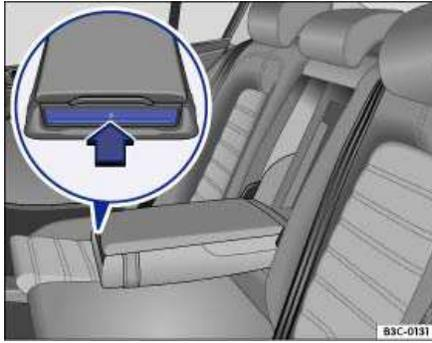

Fig. 129 In the rear center armrest: Opening the cup holders.
- Press on the front of the center armrest in the direction of the arrow ⇒ fig. 129. The cup holders open.